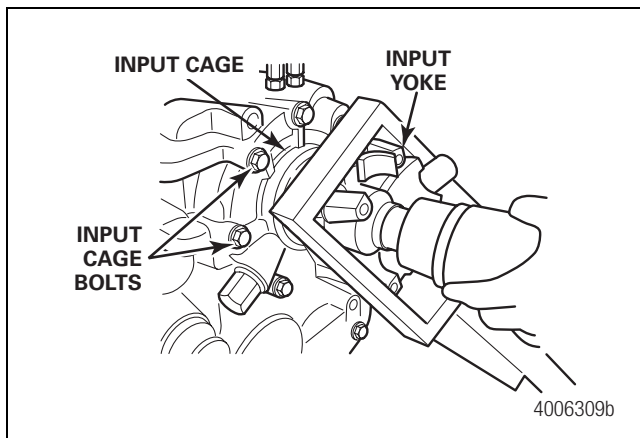

Figure 4
- Use a yoke holder to secure the input yoke from rotating. Use a shallow socket to loosen the yoke locknut and washer. Figure 4.
- Use a 3/4-inch socket to remove the input cage bolts and washers. Figure 4.